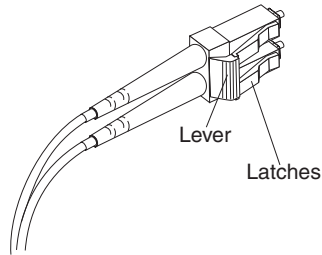

Figure 22. LC-LC Fibre Channel cable lever and latches
1. On the end of the LC-LC cable that connects into the SFP module or host bus adapter, press down and hold the lever to release the latches, as shown in Figure 22.